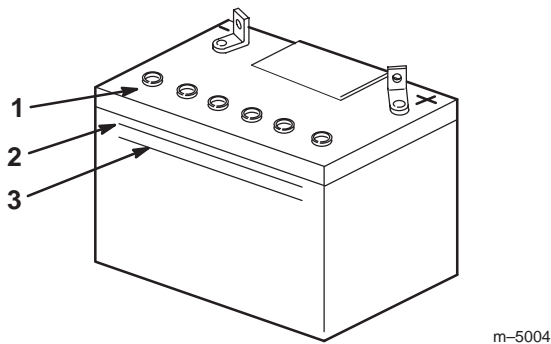

Figure 62
2. Look at the side of the battery. The electrolyte must be up to the **upper** line (Fig. 62). Do not allow the electrolyte to get below the **lower** line (Fig. 62).
3. Remove the vent caps from the battery (Fig. 62).
4. Slowly pour distilled water into each battery cell until the level is up to the **upper** line (Fig. 62) on the battery case.
- Wait five to ten minutes after filling the battery cells. Add distilled water, if necessary, until the electrolyte level is up to the **upper** line (Fig. 62) on the battery case.